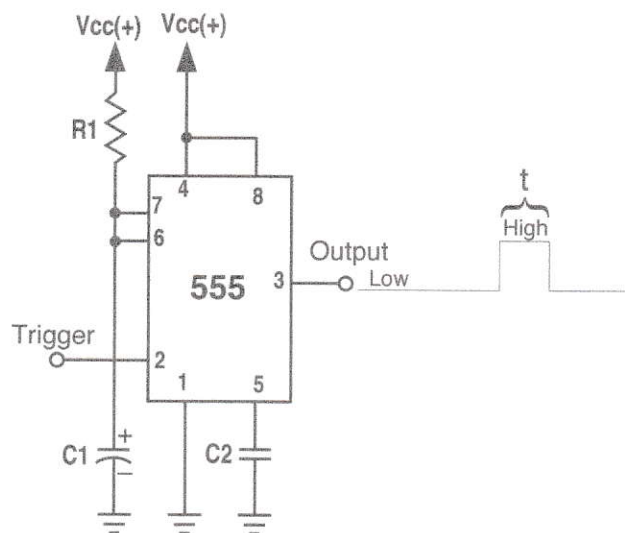

Figure 1 - The 555 Timer Configured for monostable Operation
Figure 1 shows the 555 Timer connected for monostable operation. In the monostable circuit of figure 1, the output of the 555 (pin 3), is normally Low (0). It remains in this state until a Low (0) is applied to the trigger input (pin 2). When this occurs, the timer is activated (turns ON), and pin 3 goes High for a certain period of time, determined by the values of R1 and C1. The time ON (t), in which pin 3 is High (1), is calculated using the following formula: